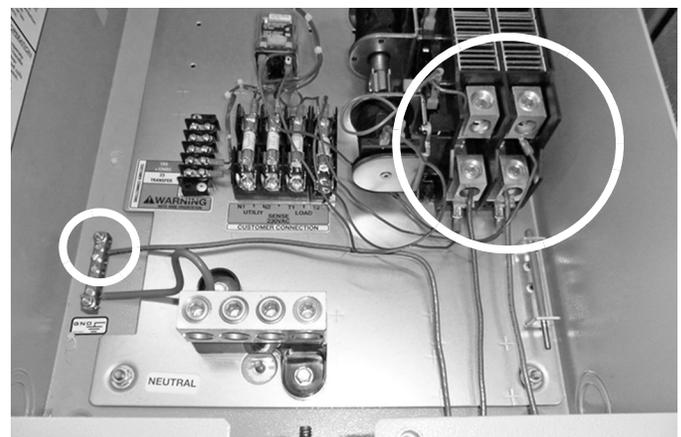

Figure 2-9.
21. Connect an Active (brown) and Neutral (blue) wire to the customer load terminals labeled T1 & T2 on the transfer mechanism. Be sure that the colors all match (Figure 2-9).